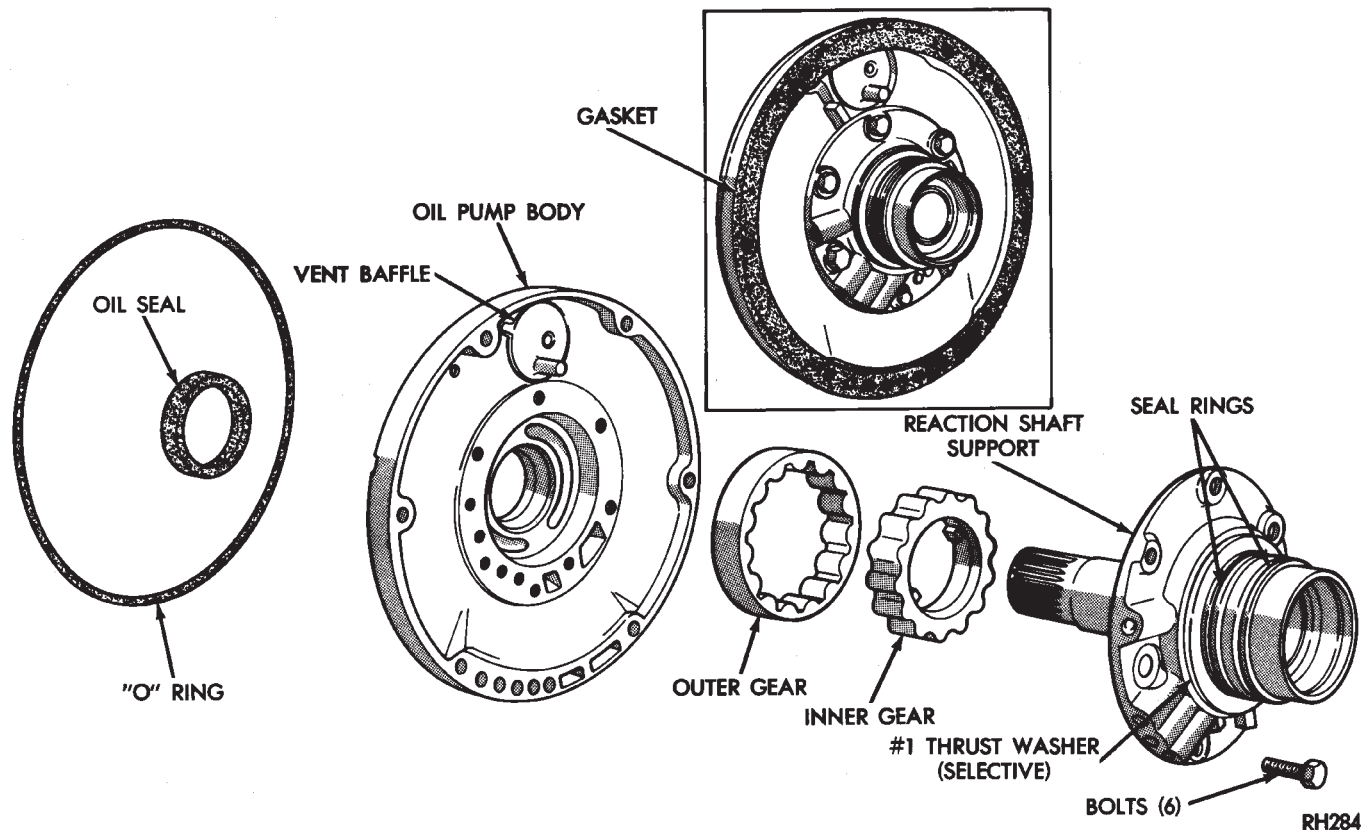

Fig. 158 Oil Pump And Reaction Shaft Components
(5) Remove O-ring seal from pump body (Fig. 158). Discard seal after removal.
(6) Remove oil pump seal with Remover Tool C-3981. Discard seal after removal.